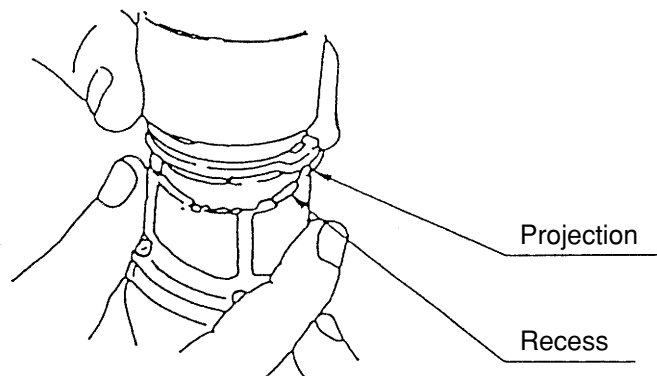

Fig. 13
- (g) Install the assembly reassembled in step (1) and the assembly reassembled in step (f) together. (See Fig. 13.)